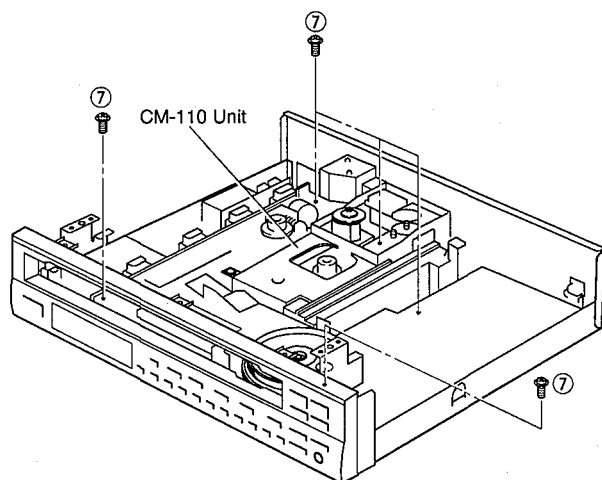

Fig. 3
- Remove 5 screws (⑦) as shown in Fig. 3.
- Take the CM-110 Unit out slowly as shown in Fig. 3.